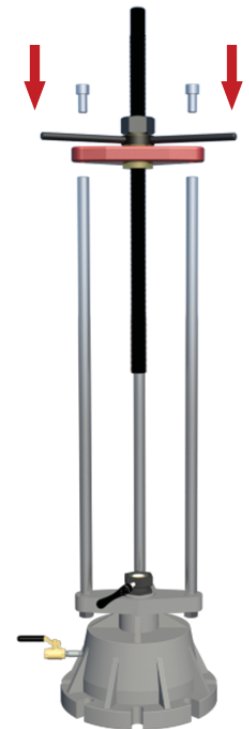

Figure 2
- Use the new 5/8" socket head cap screws included with to assemble the Rising Stem P3 Assembly onto the tapping machine as seen in Figure 2.